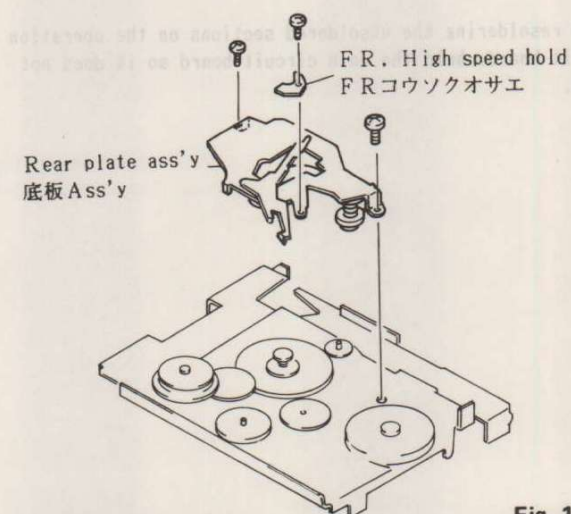

Fig. 10
- 4) Remove 3 screws. (See Figure 10)